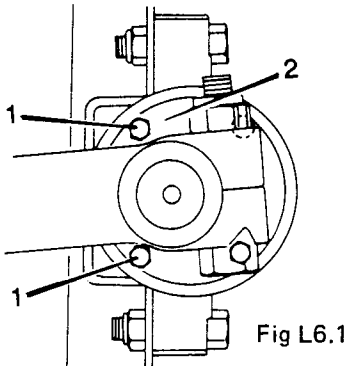

Fig L6.1
- (1) Refer to Fig L6.1. Remove two of the bolts (1) securing the relay top cover (2).
- (2) Check that the oil level is up to the bottom of the holes.
- (3) If it is not, pour oil into one of the holes (the other acts as a breather) until the oil is at the correct level.